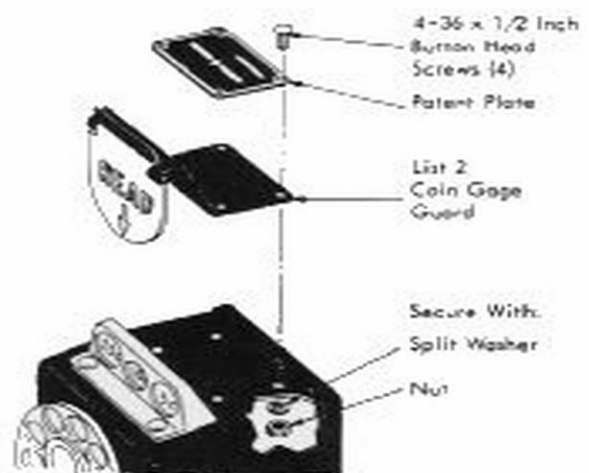

Figure 5. Mounting Sequence for List 2 Coin Gage Guard.
3.02 The installation of a List 2 coin gage guard will be the same as that for the List 1 coin gage guard, except that the List 2 coin gage guard will have the arrow pointing down to the sign below the dial assembly and the oversize card holder will not be used. This installation is illustrated in Figure 5.